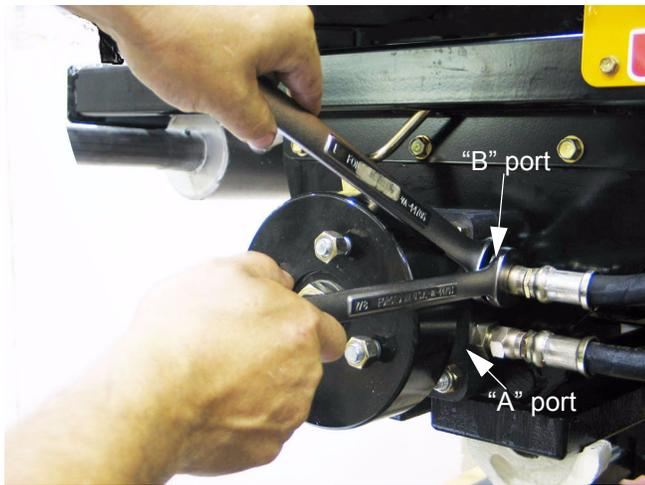

Figure 24.9
24.9. Place a catch pan beneath the wheel motor connection to be removed, and loosen the hydraulic hose using a 1" wrench and a 7/8" wrench. See Figure 24.9.